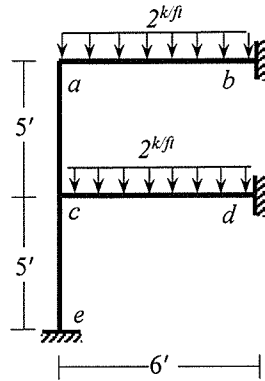

Fig.1
1. Use Stiffness Method (neglect axial deformations) to calculate rotations (θ_a, θ_c) of joints a and c of the 2D frame $abcde$ loaded as shown in **Fig.1**